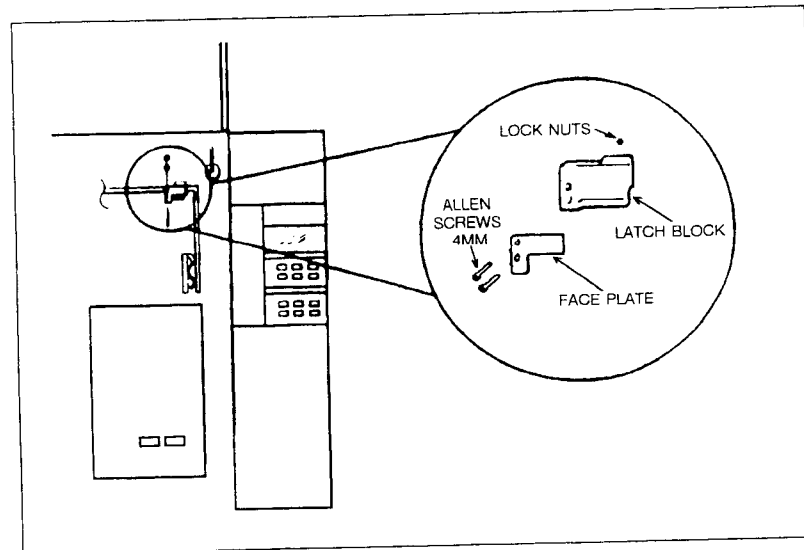

Figure 6-50. Latch Block
- a. Switch the printer off line and the ON/OFF switch to the OFF (0) position.
- c. Remove the latch block by removing the two 4mm allen screws and lock nuts from the swing gate (see figure 6-50).